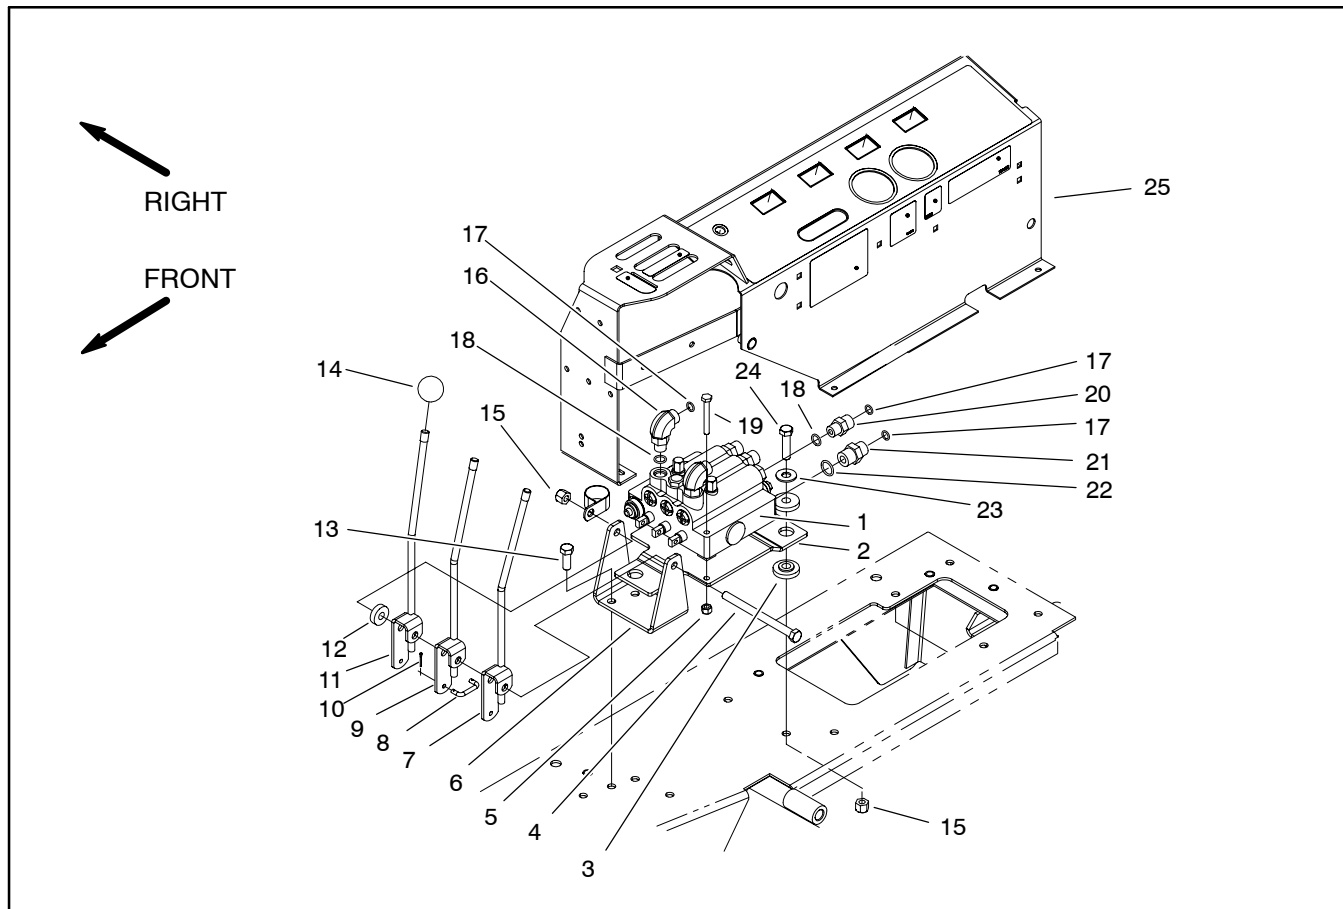

Figure 71
3. Remove lift/lower control valve using Figure 71 as a guide.
1. Install control valve using Figure 71 as a guide.